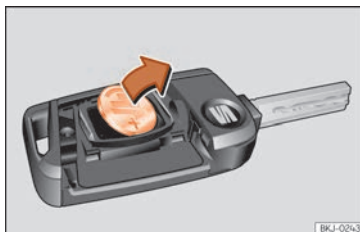

Fig. 133 Vehicle key: removing the battery.
- Extract the battery from the compartment using a suitable thin object **Fig. 133**.
- Place the new battery in the compartment as shown **Fig. 133**, pressing in the opposite direction to that shown by the arrow **①**.